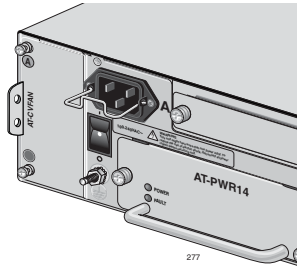

Figure 6. ON/OFF Power Switch in OFF Position
1. Make sure that the ON/OFF power switch is in the OFF position, as shown in Figure 6.